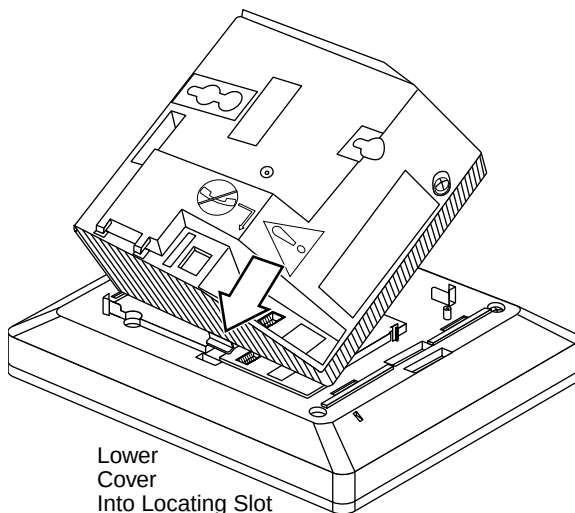
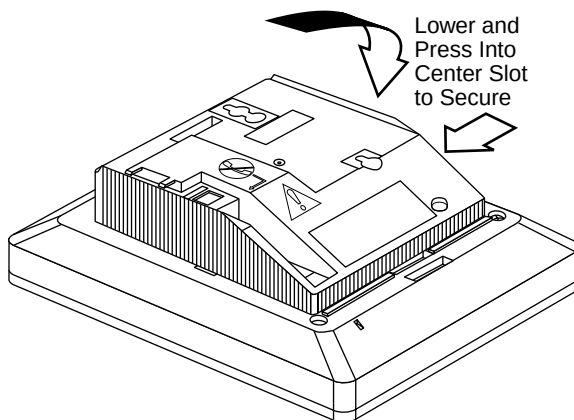
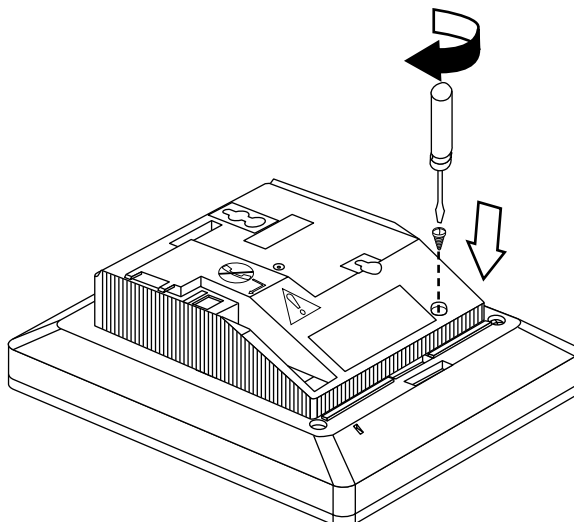

Figure 3-12. Placing the Module Cover into the Locating Slot
Figure 3-13. Lowering and Locking the Module Cover
Figure 3-14. Replacing and Tightening the Module Cover Screw
- 8. To replace the module cover, see Figure 3-12, Figure 3-13, and Figure 3-14.